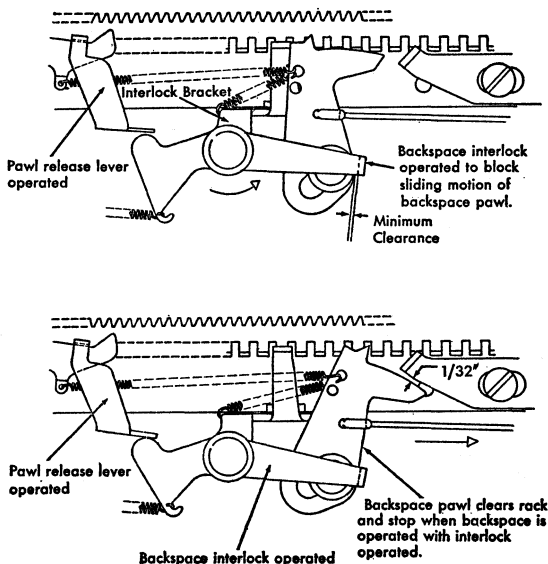
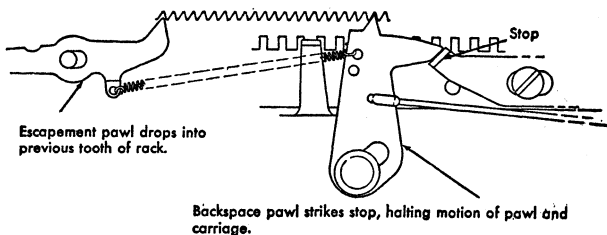

Figure 53. Backspace Interlock Bracket Adjustment
Figure 56. Backspace Stop Adjustment
1. BACKSPACE INTERLOCK. Adjust by forming the bracket which supports the interlock lever, in such a manner that all clearances are very close, (Figure 53). The clearance must be held to an absolute minimum to block any motion of the backspace pawl while the interlock is in the operating position. Test by holding down a carriage release button and moving the backspace pawl by hand.
4. THE BACKSPACE PAWL STOP is positioned so that it stops the backspace pawl as soon as the escapement pawl drops into the next tooth of the escapement rack. Observe this adjustment through the bottom of the typewriter after tripping the backspace cam and rotating the power roll by hand (Figure 56). The stop is also positioned far enough to the front of the machine so that the backspace pawl clears the stop by $1/32$ " when the interlock is operated and a backspace operation is attempted (Figure 53). Hold the carriage release levers depressed and operate the backspace by hand to observe this clearance.